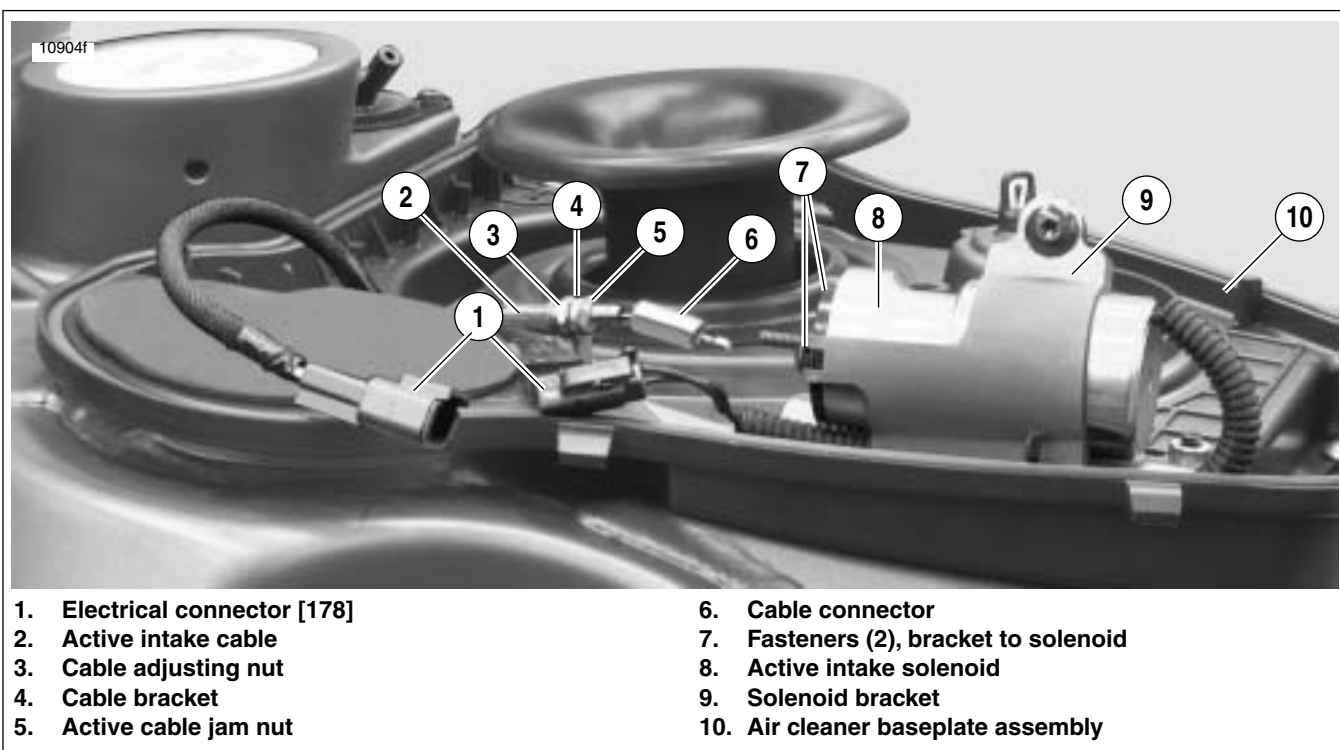

Figure E-5. Disconnecting Active Intake System
1. See Figure E-5. Disconnect electrical connector [178] (1).
2. Hold solenoid shaft by flat spot provided and break cable connector (6) loose.
3. Unthread cable connector and disconnect cable from solenoid (8).
4. Loosen jam nut (5) and disconnect active cable (2) from cable bracket (4).
1. See Figure E-5. When installing baseplate assembly (10) see 4.44 AIR CLEANER ASSEMBLY.